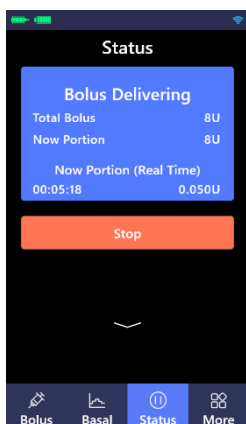

Figure 7.4
(4) After the insulin pump controller sends the delivery instruction to the insulin pump, the insulin pump will "beep" and start to perform bolus with delivery progress displayed in the status interface (as shown in Figure 7.4).
Click "Stop" in the status interface (as shown in Figure 7.4), then click "ACT" in the pop-up confirmation interface to stop, or click "ESC" to continue.